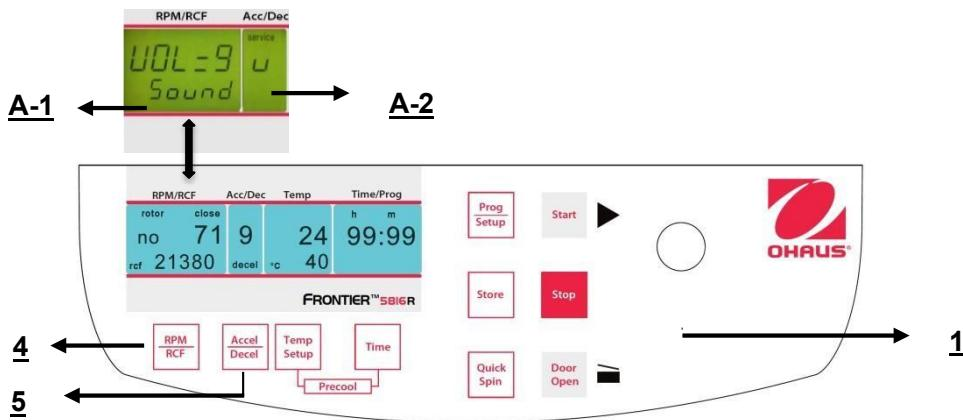

Figure. 36
Proceed as described under point 4.1.1 to enter this program mode and then press the key "**Accel/Decel**" (5). In the display "**Acc/Dec**" (A-2) the word "**Service**" flashes. Now select the letter "**U**" with the adjusting knob (1). As a result, in the display "**RPM | RCF**" (A-1) the words "**Vol=0- 9/Sound**" appear. After pressing the key "**RPM | RCF**" (4), you can adjust the desired volume between 0 (low) and 9 (loud) with the adjusting knob (1) (See figure 36).